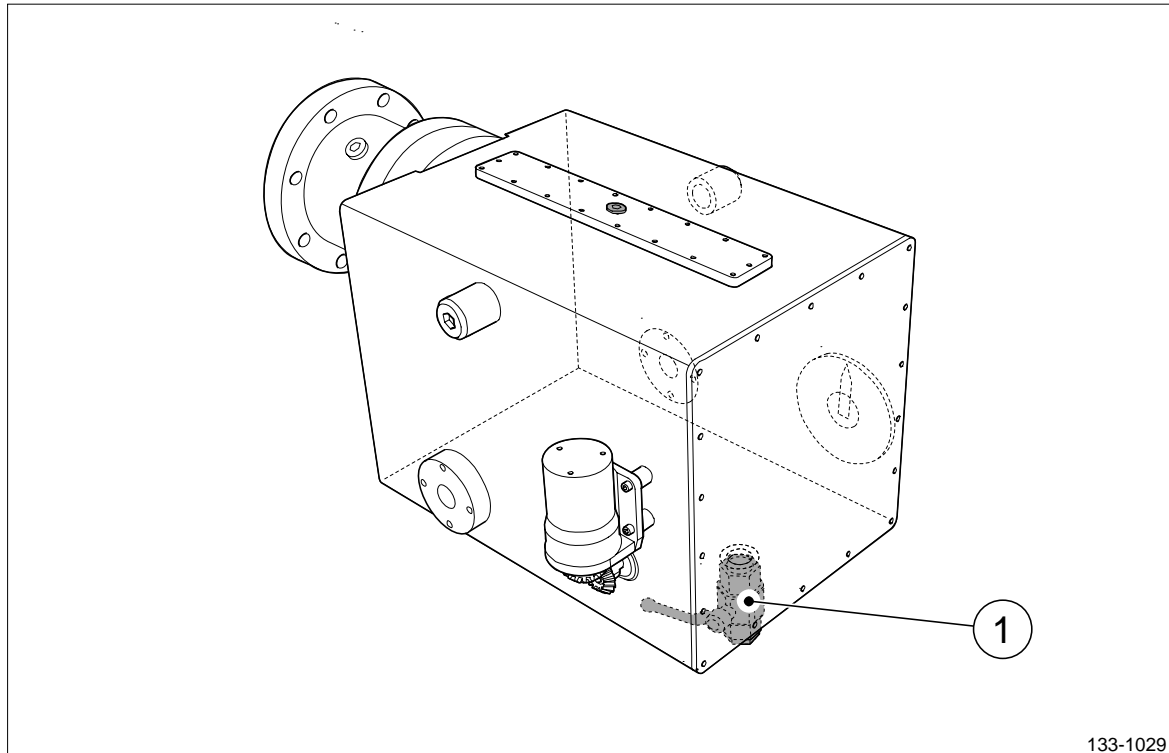

Figure 1 OD-box (FA).
3. Place a container under the drain valve T on the OD-box (pos 1, figure 1).